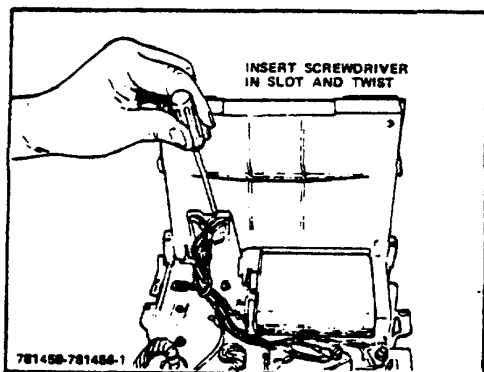

Figure 8-4. Wiring Plug Removal
- (4) Swing up the oscillator card, and pry out the wiring harness plug (TB-2) with a screwdriver (Fig 8-4).